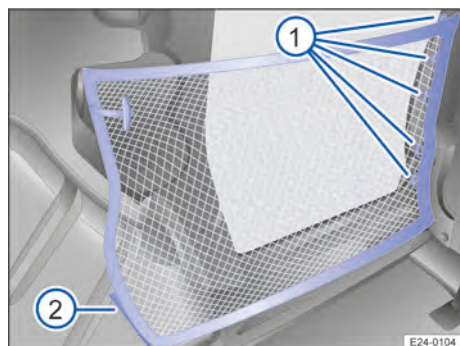

Fig. 136 Load retention net attached.
3. Hook the five retaining eyes into the holders on the seat frame → Fig. 136 ① at the flexible partition.
4. Secure the rear lower part of the load retention net at the Velcro fastener → Fig. 136 ②.